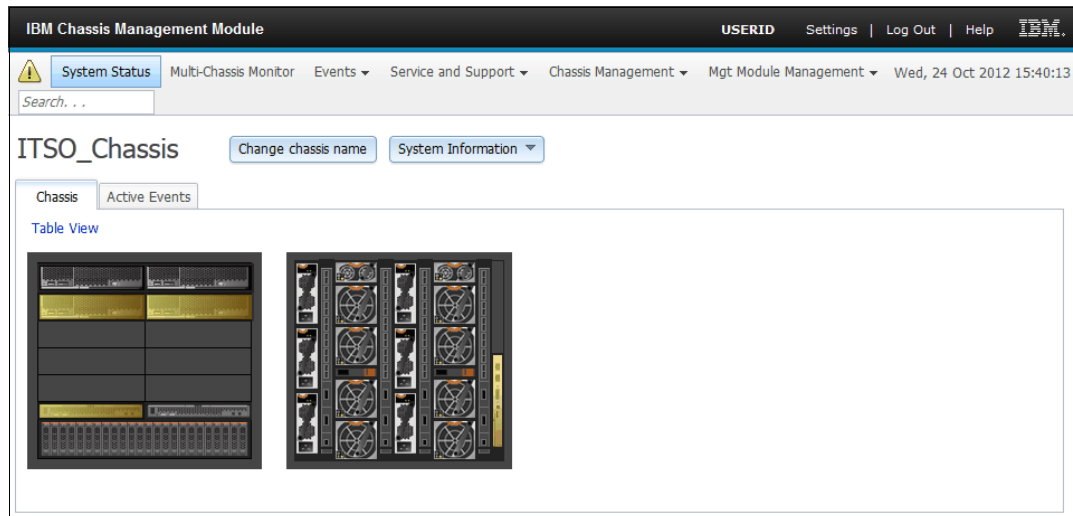

Figure 3-6 IBM Flex System Chassis Management Module Chassis Map (default) view
3. After a successful login, CMM opens the default view showing Chassis Map, as shown in Figure 3-6.